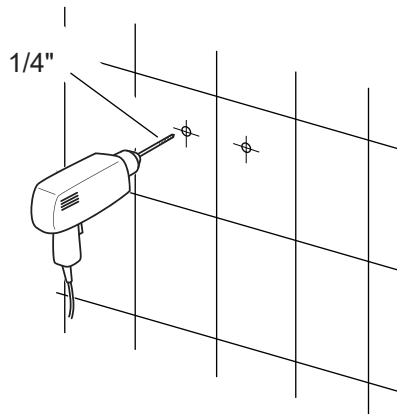

Fig 3.1
**3-1** Drill 1/4" holes at the marked positions. (Fig 3.1)